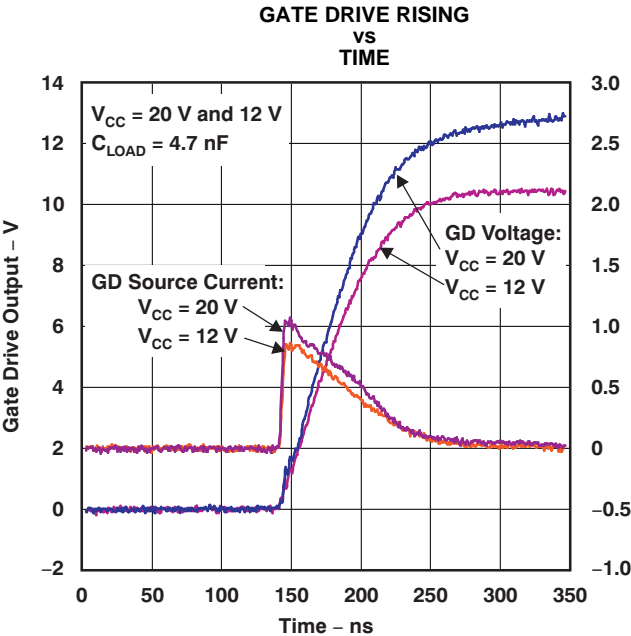
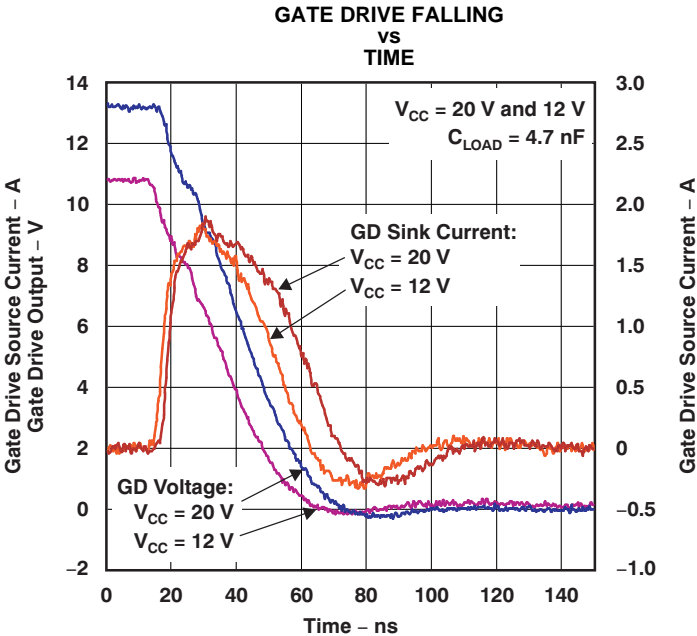
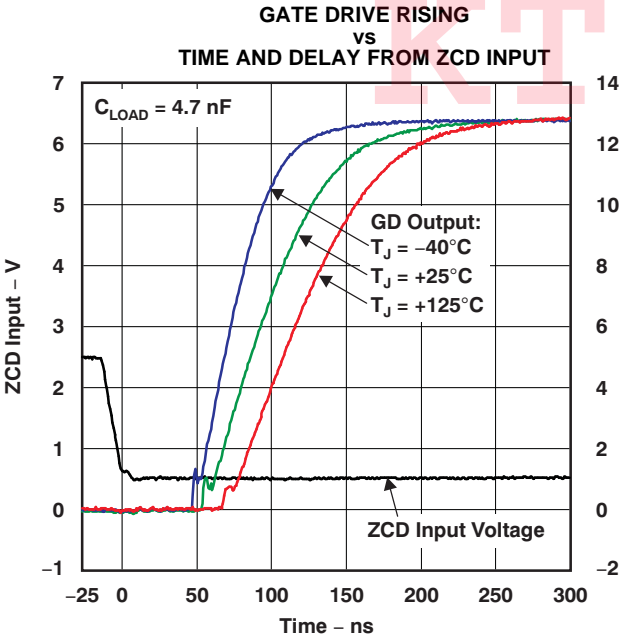
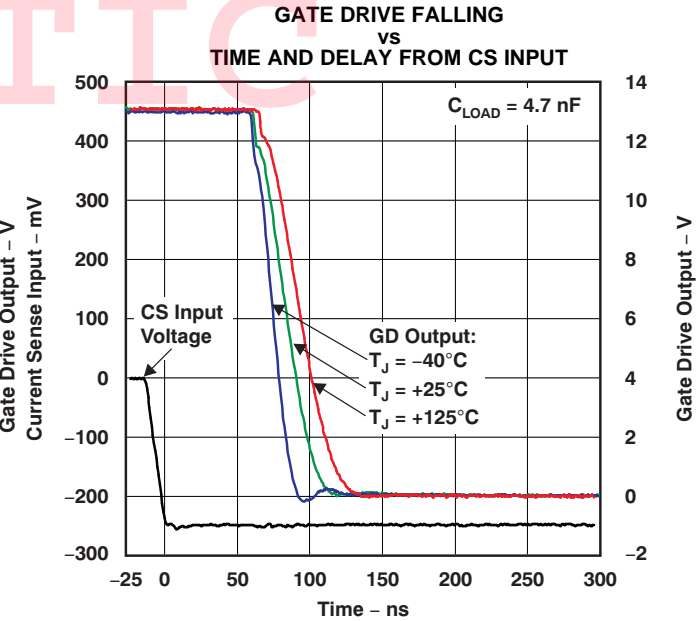

Figure 13.
Figure 14.
Figure 15.
Figure 16.
(2) Refer to Figure 13, Figure 14, Figure 15, and Figure 16 in the Typical Characteristics for typical gate drive waveforms.